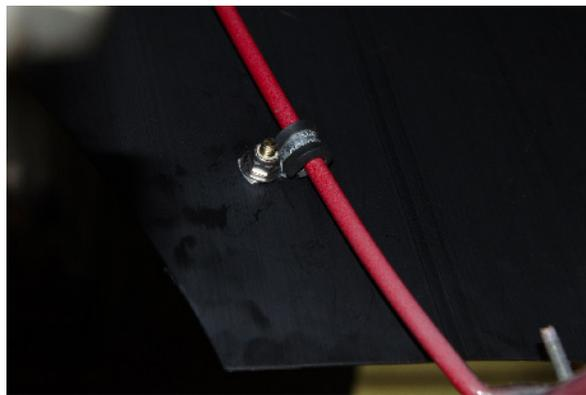

Figure 28
- L. Use the supplied p-clip to fasten the bottom front of the wheel liner to the bedside support rods. Use an M6 button head bolt and a large black fender washer on the front side of the liner with a locking nut on the back side (fig. 28).